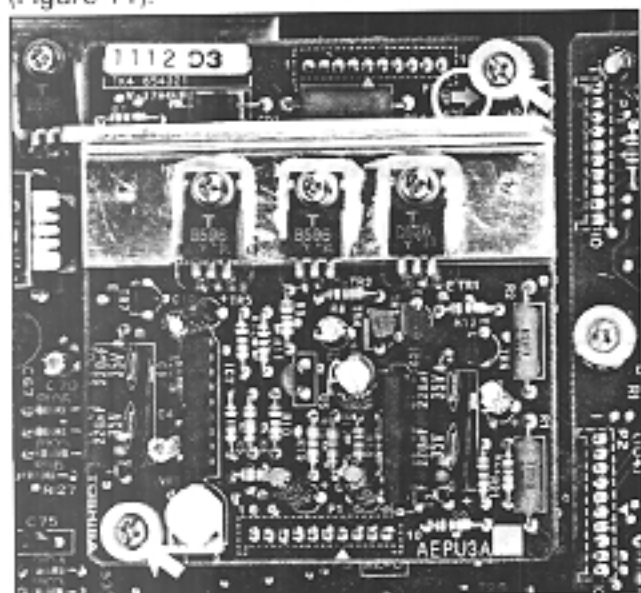

FIGURE 11—MOUNTED AEPU
shown in Figure 11. Mount the PCB on the 10-pin connectors P5 and P6 (note the "↑" arrow on the AEPU and pin alignment when positioning the PCB) and secure it with the two screws provided (Figure 11).
07.32 Note the location of the volume control in Figure 11. It will be necessary to leave the MKSU cover off until this has been adjusted per Paragraph 11.30.